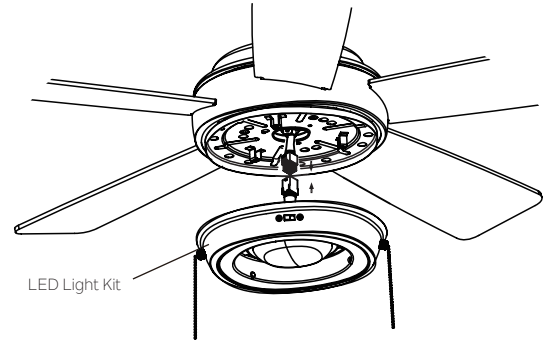

Fig. 19
Step 2. Securely attach the 9-pin connector to the wiring harness socket within the motor assembly (Fig. 19)